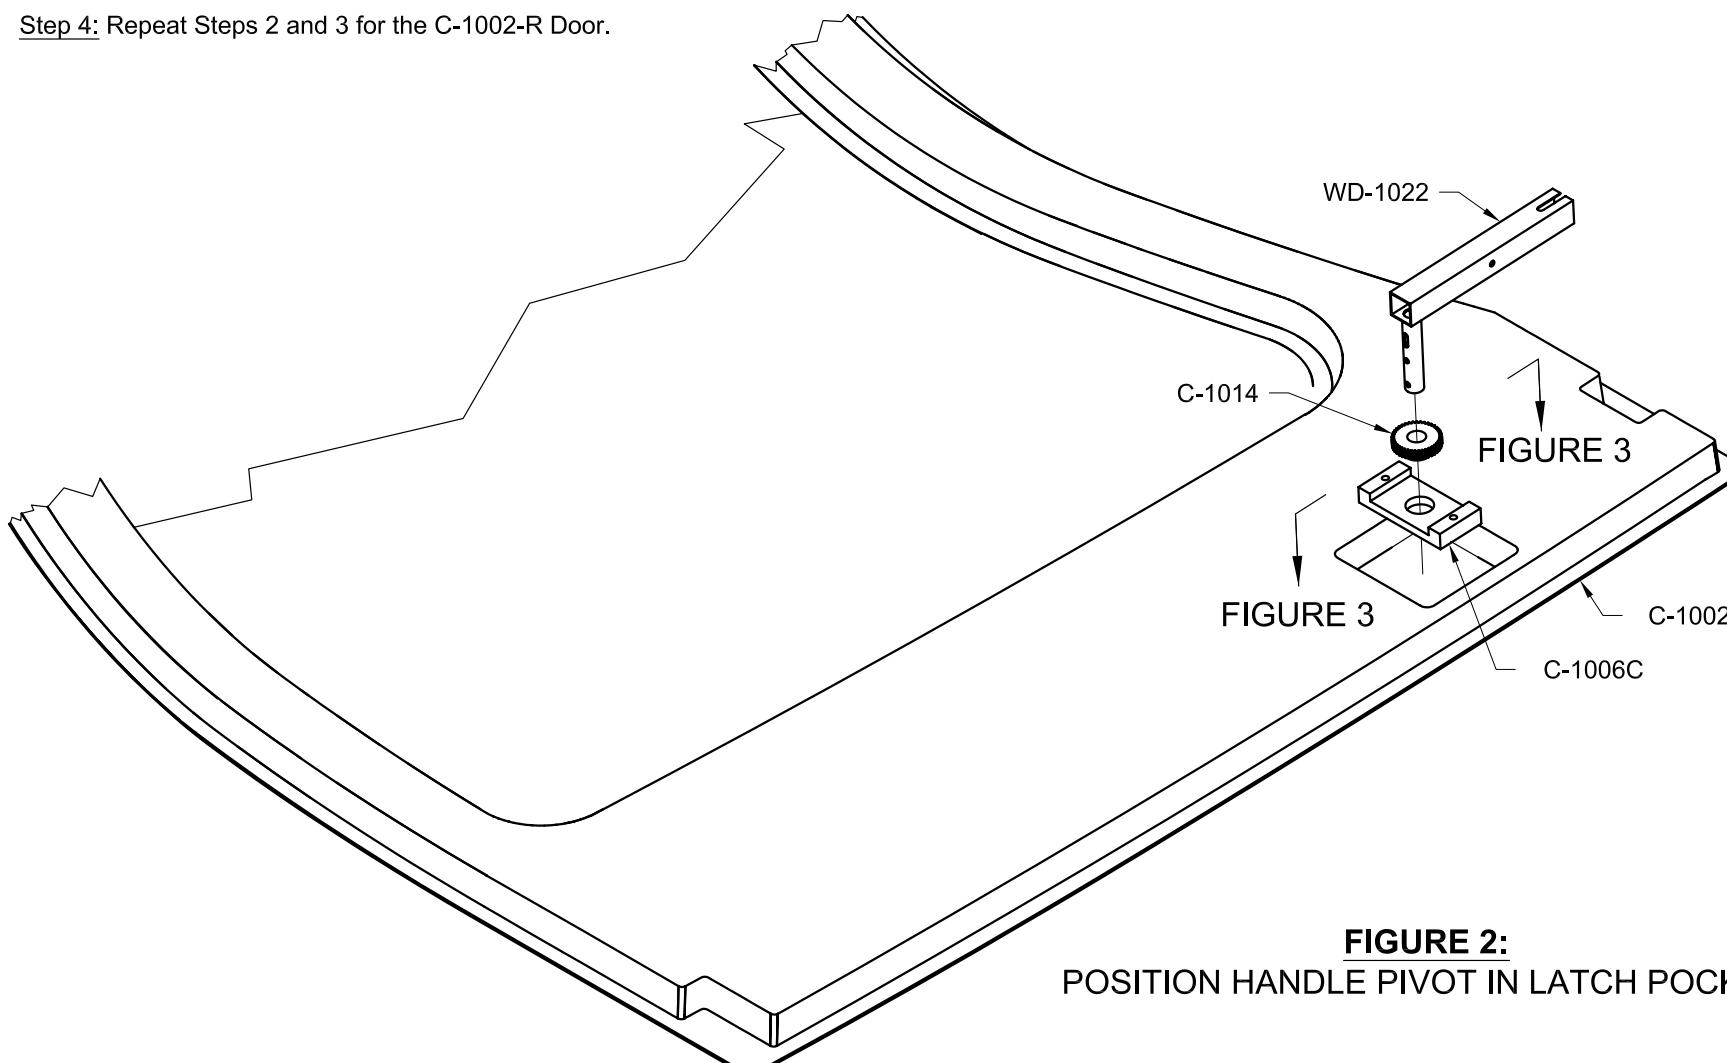

FIGURE 2:
Step 2: Insert the C-1014 Handle Spur Gear into the C-1006C Handle pivot. Position the handle pivot/spur gear in the latch pocket of the C-1002-L Door as shown in Figure 2. Center the handle pivot in the latch pocket both vertically and fore/aft as shown in Figure 3. With the handle pivot held in position, match-drill a $\frac{1}{2}$ inch diameter hole through the door using the handle spur gear as a drill guide. See Figure 3.
Step 3: Insert the WD-1022 Door Handle Assembly through the C-1014 Handle Spur Gear and through the hole just drilled through the C-1002-L Door. See Figure 2. This will hold the C-1006C Handle Pivot centered on the hole in the door. Re-check that the edges of the handle pivot are aligned with the edges of the latch pocket and match-drill #12 through the door using the holes in the handle pivot as drill guides. See Figure 3.